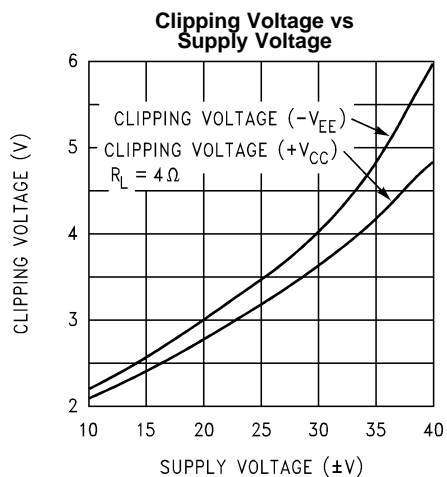

Figure 14.
(7) The feedback compensation network limits the bandwidth of the closed-loop response and so the slew rate will be reduced due to the high frequency roll-off. Without feedback compensation, the slew rate is typically larger.
(8) DC Electrical Test; refer to Test Circuit #1- DC Electrical Test Circuit.
(9) The output dropout voltage is the supply voltage minus the clipping voltage. Refer to Figure 14 in Typical Performance Characteristics.